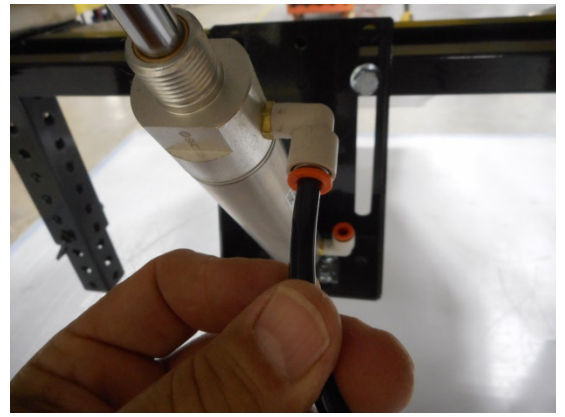

Fig. 4
4. Attach tubes to cylinder on the bottom side of the diverter. (Fig 4)